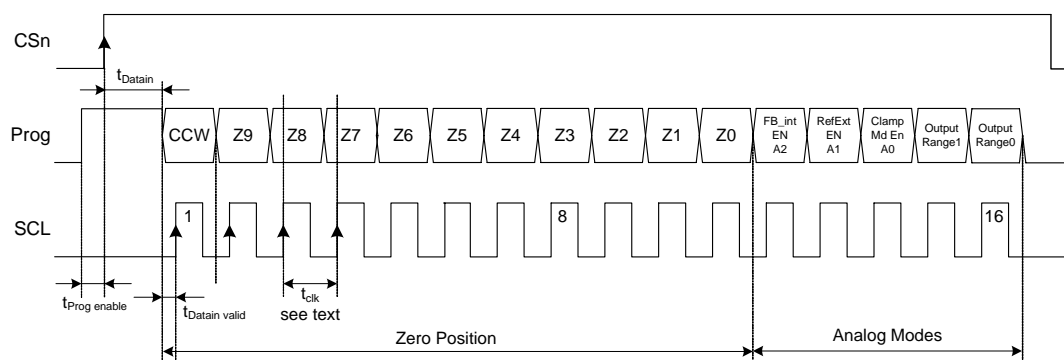
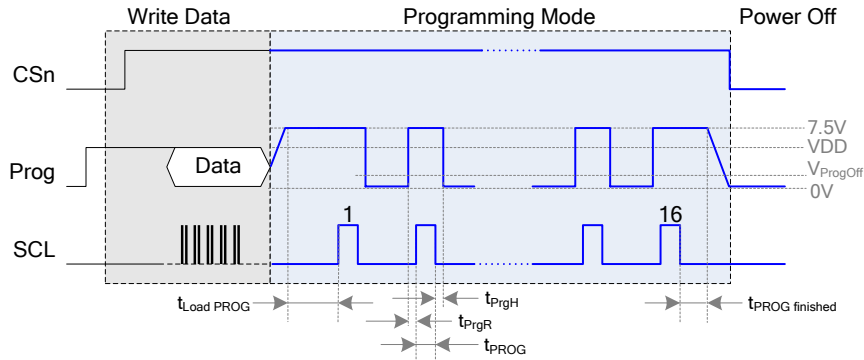
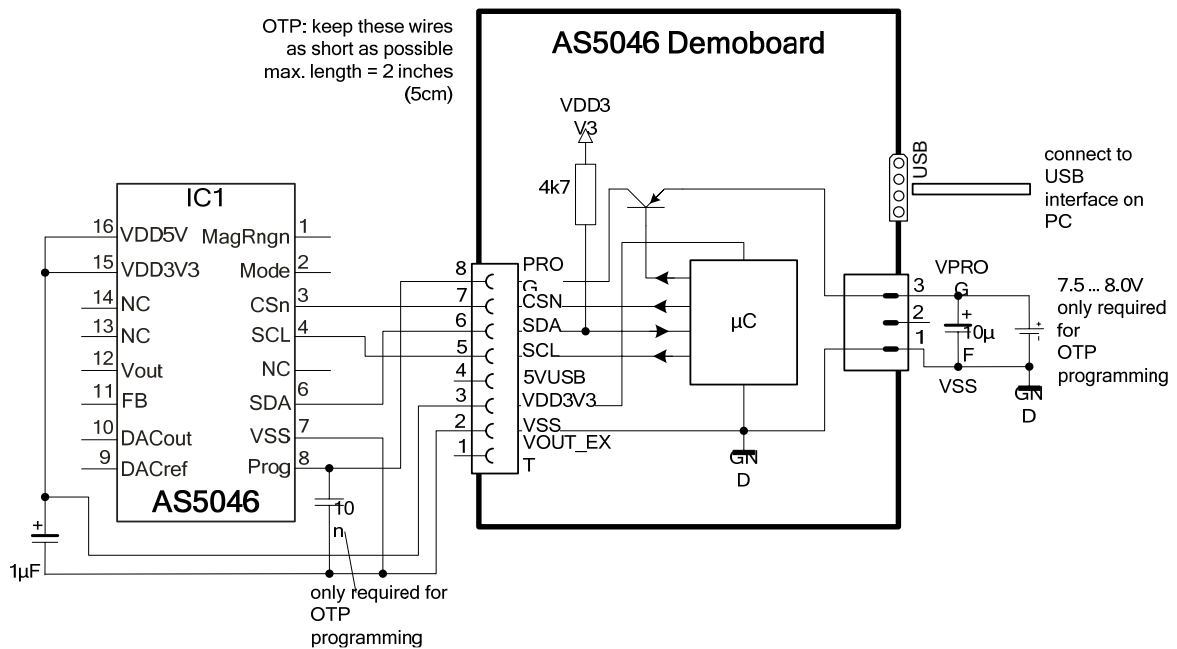

Figure 13: Programming Access – OTP Write Cycle (section of Figure 14)
Figure 14: Complete OTP programming sequence
Figure 15: OTP programming hardware connection of AS5046 (shown with AS5046 demoboard)
- Changing the address also changes the analog mode, as these OTP bits share the same position. (see Figure 13)
After power-on, programming the AS5046 is enabled with the rising edge of CSn and Prog = logic high. 16 bit configuration data must be serially shifted into the OTP register via the Prog-pin. The first “CCW” bit is followed by the zero position data (MSB first) and the Analog Output Mode setting as shown in Table 9. Data must be valid at the rising edge of CLK (see Figure 13). Following this sequence, the voltage at pin Prog must be raised to the programming voltage  $V_{\text{PROG}}$  (see Figure 14). 16 CLK pulses ( $t_{\text{PROG}}$ ) must be applied to program the fuses. To exit the programming mode, the chip must be reset by a power-on-reset. The programmed data is available after the next power-up.
Note: During the programming process, the transitions in the programming current may cause high voltage spikes generated by the inductance of the connection cable. To avoid these spikes and possible damage to the IC, the connection wires, especially the signals PROG and VSS must be kept as short as possible. The maximum wire length between the  $V_{\text{PROG}}$  switching transistor and pin PROG (Figure 15) should not exceed 50mm (2 inches).
is not required for normal operation. The clock timing  $t_{\text{clk}}$  must be selected at a proper rate to ensure that the signal PROG is stable at the rising edge of CLK (see Figure 13). Additionally, the programming supply voltage should be buffered with a 10 $\mu$ F capacitor mounted close to the switching transistor. This capacitor aids in providing peak currents during programming. The specified programming voltage at pin PROG is 7.3 – 7.5V (see section 5.7). To compensate for the voltage drop across the  $V_{\text{PROG}}$  switching transistor, the applied programming voltage may be set slightly higher (7.5 – 8.0V, see Figure 15).
This procedure is essentially a "Write Data" sequence (see Figure 13) without a subsequent OTP programming cycle.